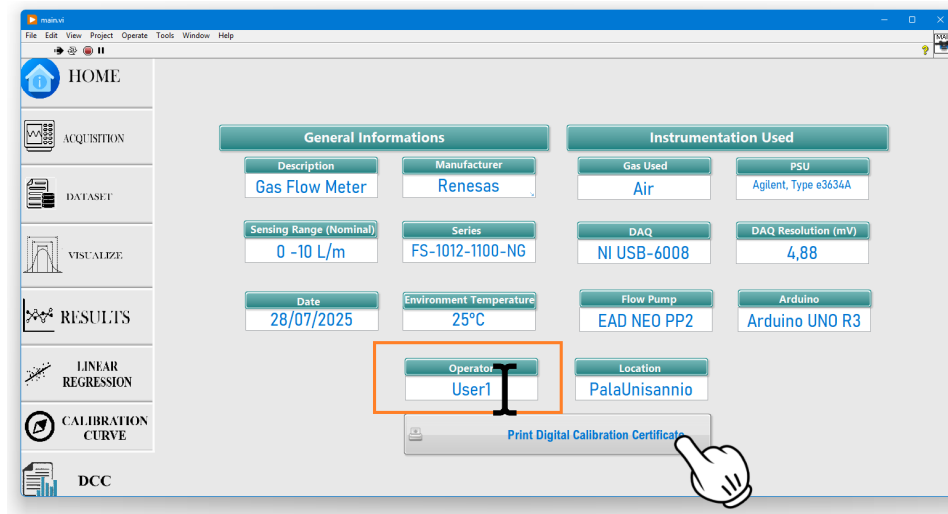

Figure 37: Producing the calibration report.
Step 13) Select the DCC tab. Locate the *Print Report* button on the bottom of the page, as illustrated in Figure 37. Press the button to generate a calibration report document. The program automatically labels this file as "certificate", stored in the report folder.